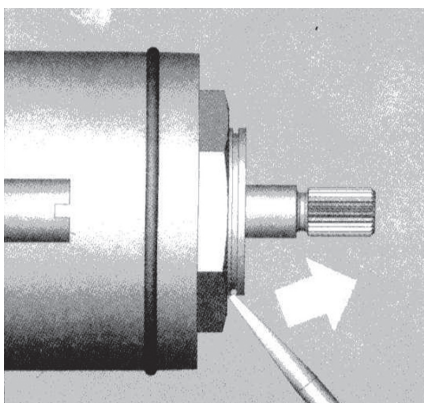

Figure 4
2. Remove the grey adjustment ring by placing the blade of a knife into the groove and prying it off (see **Figure 4**).